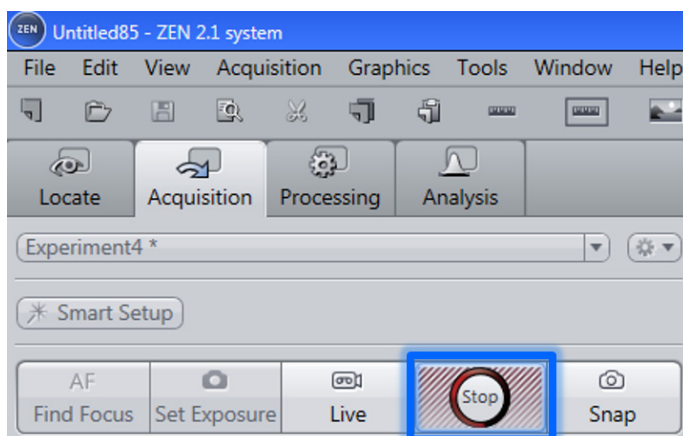

Fig. 20 Finishing the continuous image acquisition
- Finish the continuous scan by clicking the **Stop** button (Fig. 20).